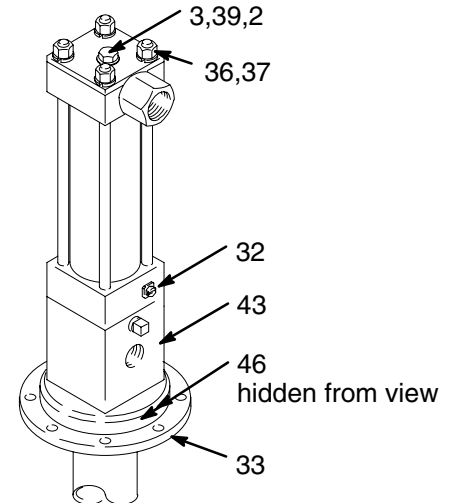

Fig. 7
1. Place the adapter (43) in a vise. Remove the four capscrews (46) and the base (33). Pull the bottom cap (32) off of the adapter (43). See Fig. 7. If needed, replace the seals as described on page 11.
3. Remove the capscrew (3), nuts (36) and lockwashers (37) on top of the reciprocator. See Fig. 7.